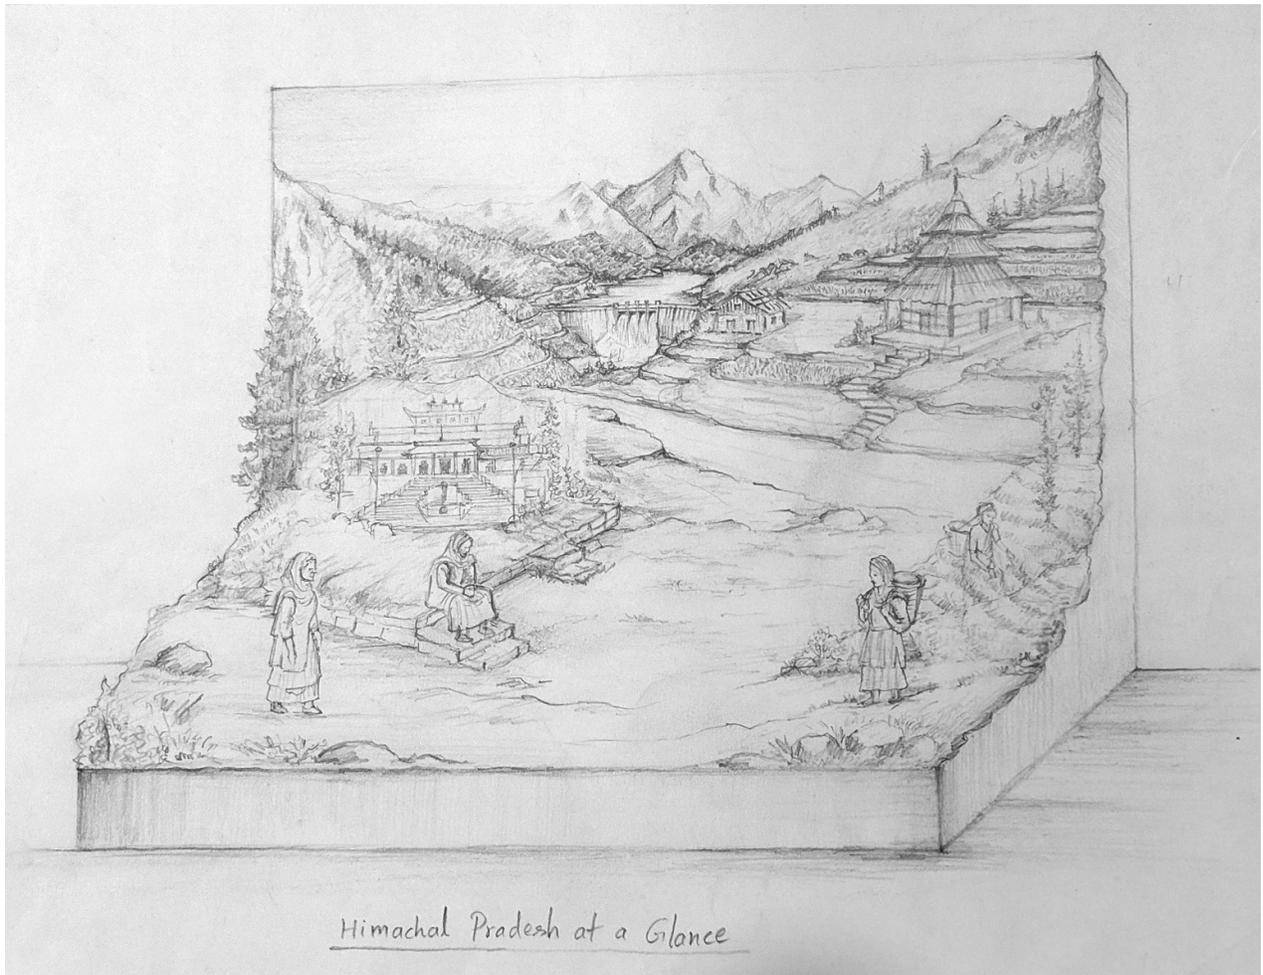

Fig. 1.1 The diorama dimensions are 14 feet (length) x 6 feet (depth) x 12 feet (height) Diorama starts at 30 inch approx. from floor surface.
- Artistic representation for look and feel of the diorama is shown in fig 1.1 for reference.
- Fig 1.1 given below maybe used for reference for making this diorama; however successful bidder should do their own research for authentic and detailed presentation and any other image may also be used with prior approval from authority of NSCD/PSCP